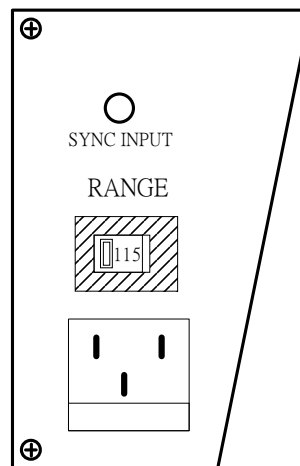

Fig.2-1 SET OF SWITCH
- 2.2.2 Refer the drawing on the rear panel in Fig 2-1, set the switches to the proper voltage as describe in the following: